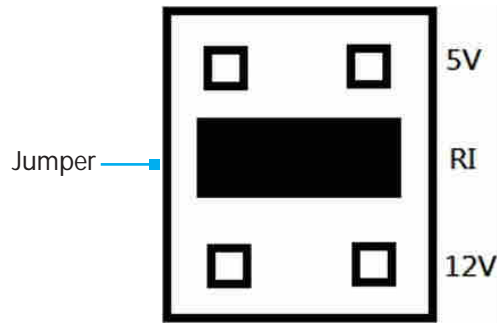

Figure 1
4. Position the **Jumper** over the set of **Pins** that correspond with the desired **Serial Connector Power Setting**. See **Figure 1** to determine where the **Jumper** should be positioned.